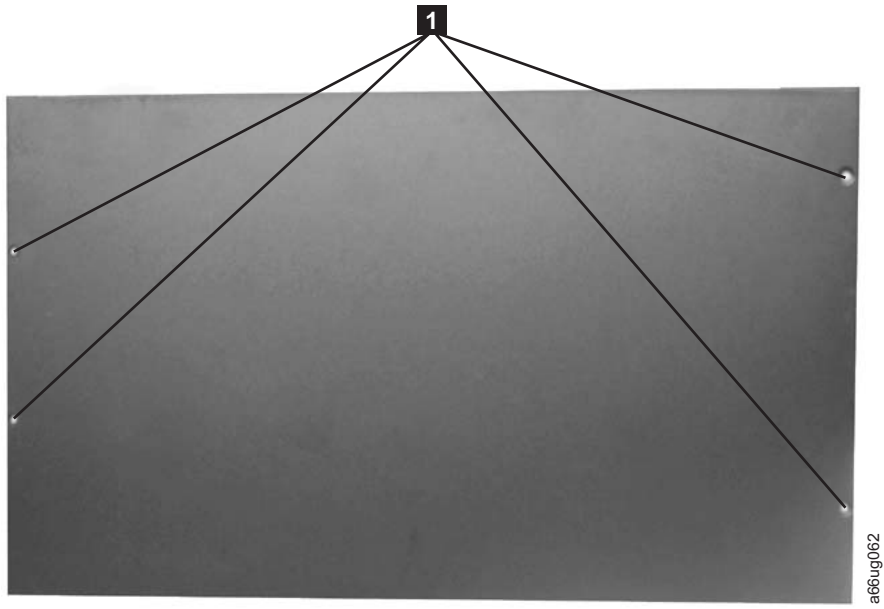

Figure 3-11. Top cover of the 5U control module
2. Remove the 4 - #2 Phillips top cover screws ( **1** in Figure 3-11 on page 3-12).